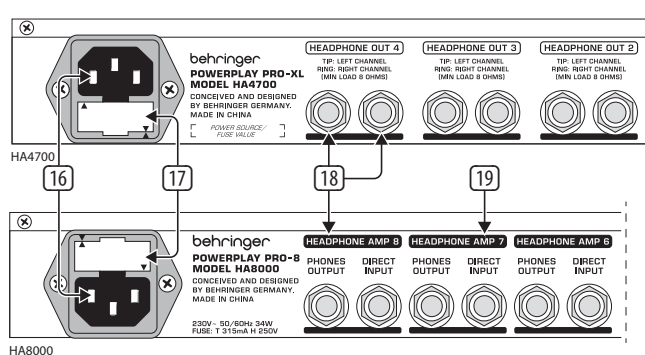

Fig. 2.3: Mains supply, fuses compartment and headphone outputs
- 1 The DIRECT IN socket is used to feed in additional stereo signals. In the case of the HA4700, the signal brought in via the DIRECT IN input has the same priority as the MAIN signal. The HA8000 has a separate DIRECT INPUT connector for each channel (19) (see fig. 2.3). In the case of this model, the MAIN signal being fed in is automatically interrupted when the said input is in use.